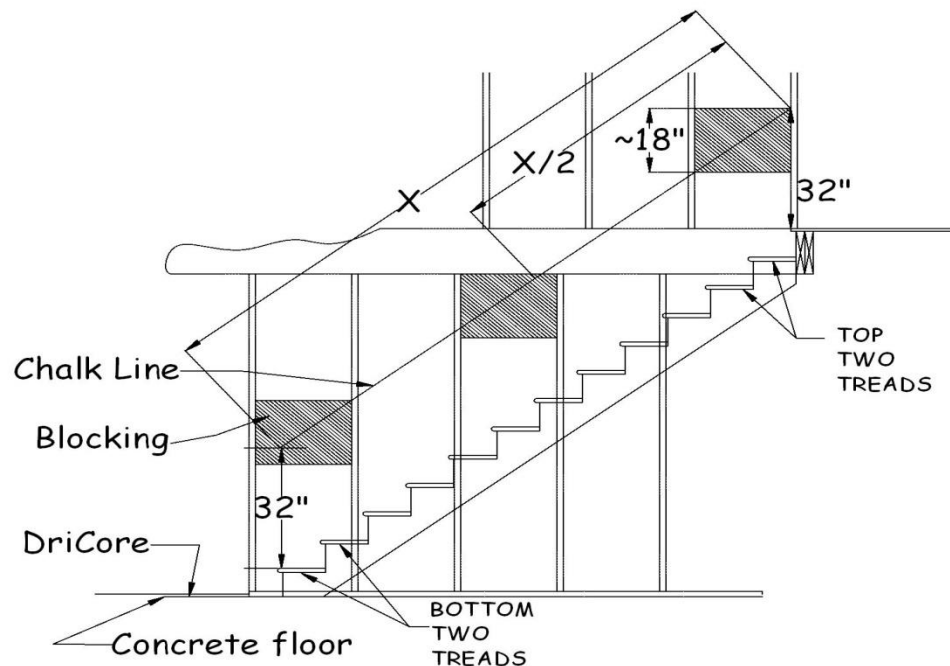

Figure 10-6. Blocking For Handrail.
2. The handrail bracket bottom screws will be mounted approximately 31” above a line that is defined by the nose of the treads. This will place the top of the handrail between the required 34” and 36” above the nose of the treads. To provide some latitude in the placement, measure up 32” from the decking, vertically at the edge of the floor deck, and mark the wall at that height. At the bottom of the stairs, again measure up 32” from the nose of the bottom stair tread. Snap a chalk line between the top and bottom marks. The blocking must be installed so that the top corner toward the top of the stairs is on or above this chalk line, and the bottom corner toward the bottom of the stairs is on or below this line (see Figure 10-6).
3. For blocking, use a combination of scrap 2x12's, 2x10's or 2 x6's to equal a minimum height of 18" (see Figure 10-6). The extra height helps to ensure that handrail brackets will be secured to the blocking after sheetrock is installed.